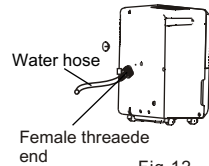

Fig. 12
- Install the female threaded end of the water hose into the adaptor A. (See Fig.12), then lead the water hose to the floor drain or a suitable drainage facility.